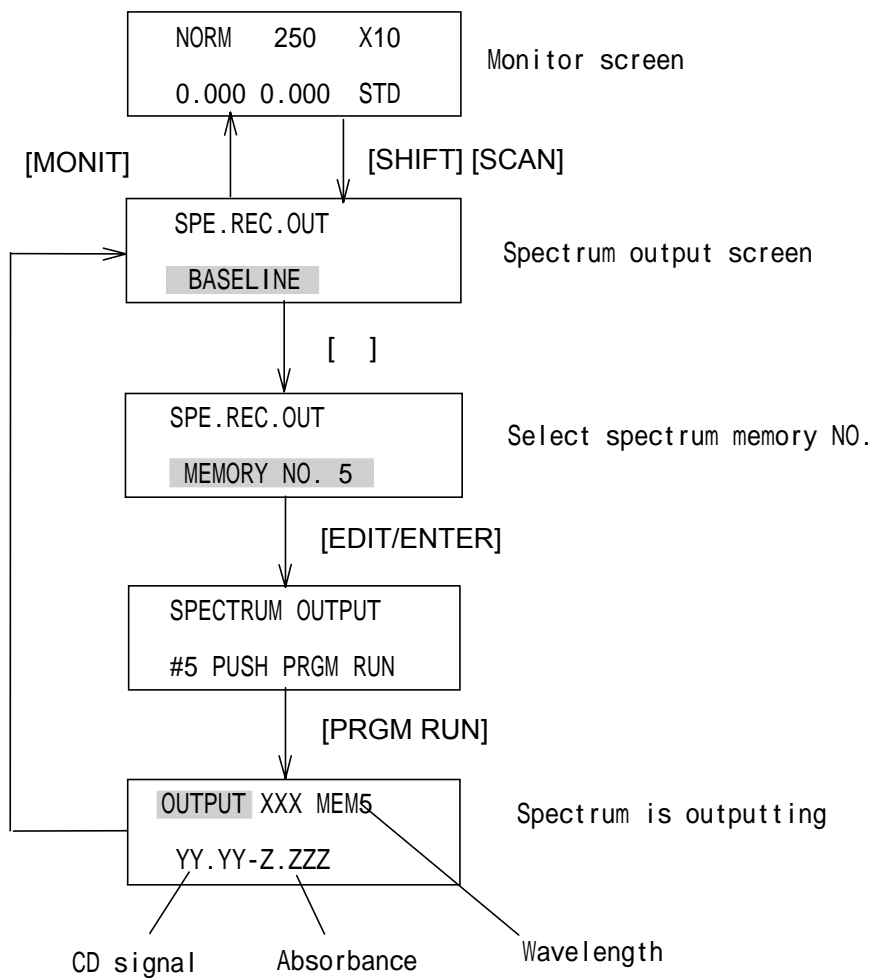

Figure7.4 Procedure for outputting a spectrum
- 1) Push [SHIFT] [SCAN] to display the SPECTRUM OUTPUT screen. (refer to Fig. 7.4).